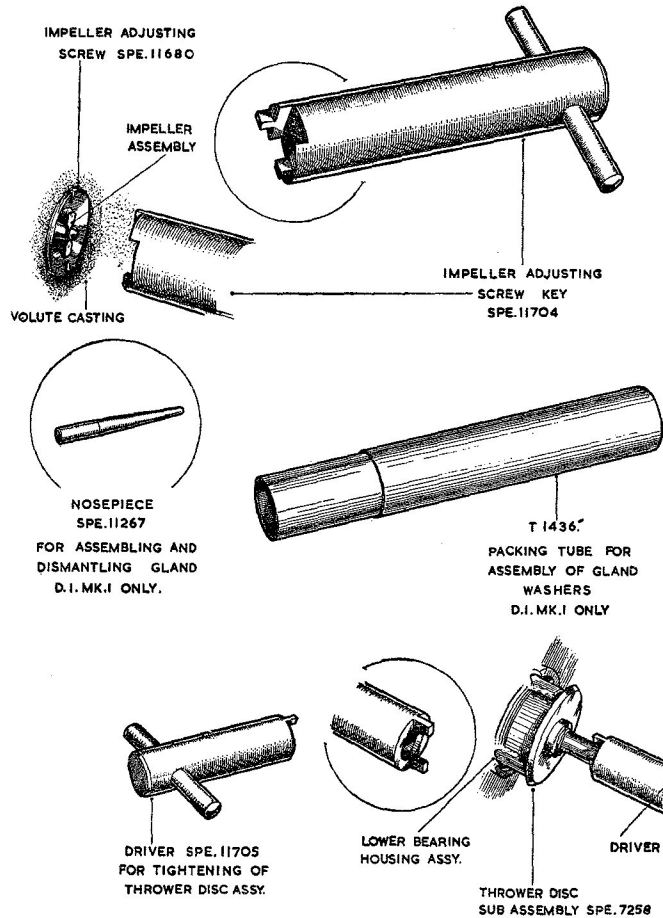
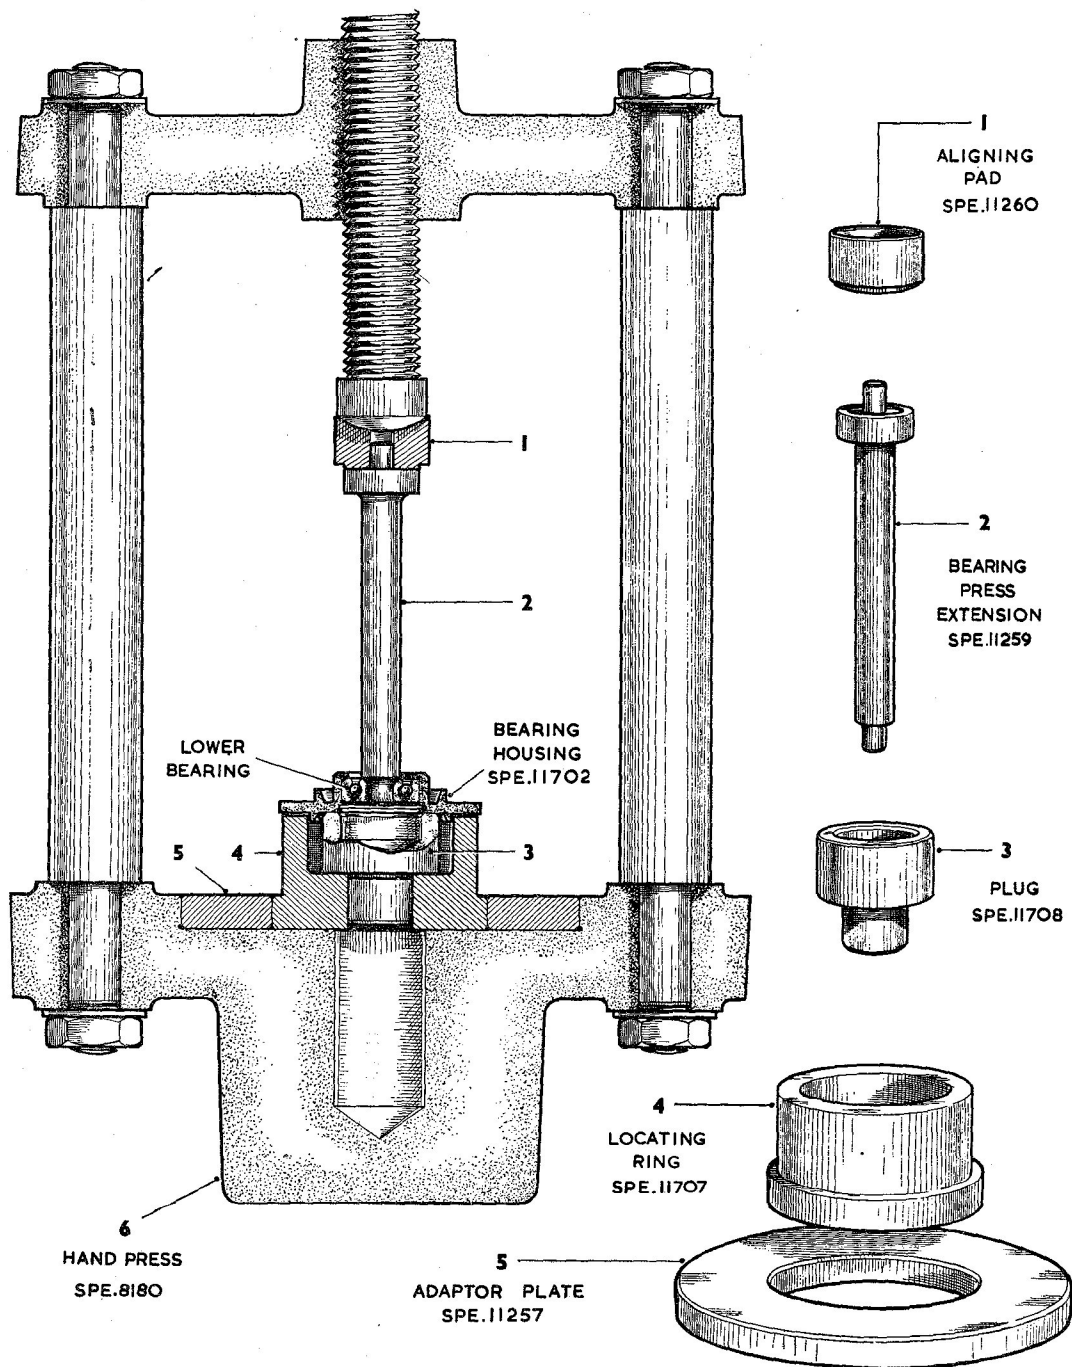

Fig. 1. Special hand tools
Fig. 3. Tools for removal of lower bearing
9. The vapour guide cone can be withdrawn by removing the two guide cone fixing screws and spring washers, access to which is made through the inlet end of the volute casting. Remove the impeller clearance adjusting screw, using key SPE.11704 (*fig. 1*).
10. Holding the commutator end spindle nut with a spanner, unscrew and remove the propeller fixing screw and its washer, together with the propeller. Strike the impeller a sharp blow in an anti-clockwise direction with a pencil or similar piece of wood and unscrew the impeller from the spindle. Screw on the nosepiece SPE.11267 (*fig. 1*), in place of the impeller.
13. Holding the fuel thrower disc with the special driver SPE.11705 (*fig. 1*) unscrew the spindle end nut and lift off the upper bearing dust shield.
16. Holding the armature, unscrew the fuel thrower disc, using the special driver SPE.11705 (*fig. 1*) and remove the lower bearing dust shield. With a hide or plastic faced hammer, tap the nosepiece SPE.11267 until the armature is free to be lifted from the lower bearing and its housing. Remove the bearing circlip from the bearing housing together with the bearing dust shield. The lower bearing can now be pressed out of its housing using the tools illustrated in *fig. 3*.